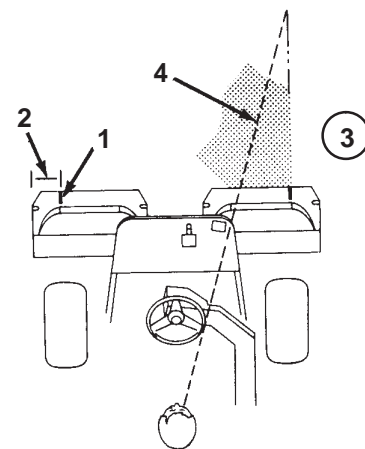

Figure 29
2. Either place a strip of white tape or paint a line onto each basket paralleling the outer edge of each basket (Fig. 29).
3. Overlap a minimal amount with the previous cut on return passes. To assist in maintaining a straight line across the green and keep the machine an equal distance from the edge of the previous cut, establish an imaginary sight line approximately 6 to 10 ft. (1.8 to 3 m) ahead of the machine to the edge of the uncut portion of the green (Fig. 29 and 30). Some find it useful to include the outer edge of the steering wheel as part of the sight line; i.e. keep the steering wheel edge aligned with a point that is always kept the same distance away from the front of the machine (Fig. 29 and 30).